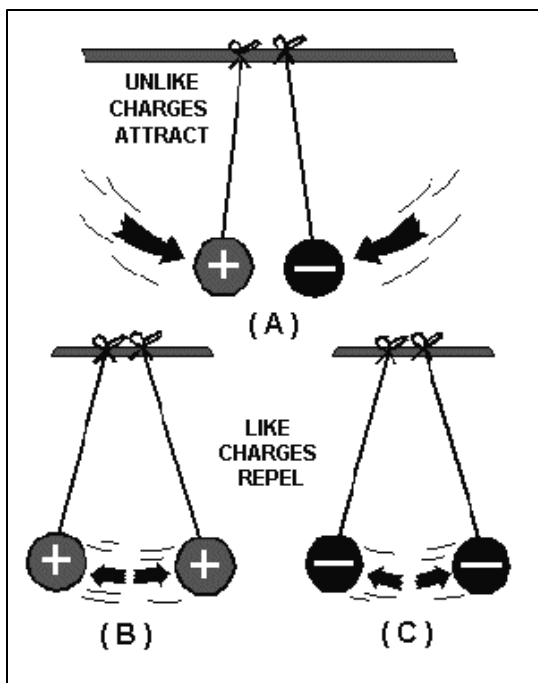

Figure 7: Reaction between charged bodies.
The law of charged bodies may be demonstrated by a simple experiment. Two pith (paper pulp) balls are suspended near one another by threads, as shown in Figure 7
If a hard rubber rod is rubbed with fur to give it a negative charge and is then held against the right-hand ball in part (A), the rod will give off a negative charge to the ball. The right-hand ball will have a negative charge with respect to the left-hand ball. When released, the two balls will be drawn together, as shown in Figure 7(A). They will touch and remain in contact until the left-hand ball gains a portion of the negative charge of the right-hand ball, at which time they will swing apart as shown in Figure 7(C). If a positive or a negative charge is placed on both balls (Figure 7(B)), the balls will repel each other.